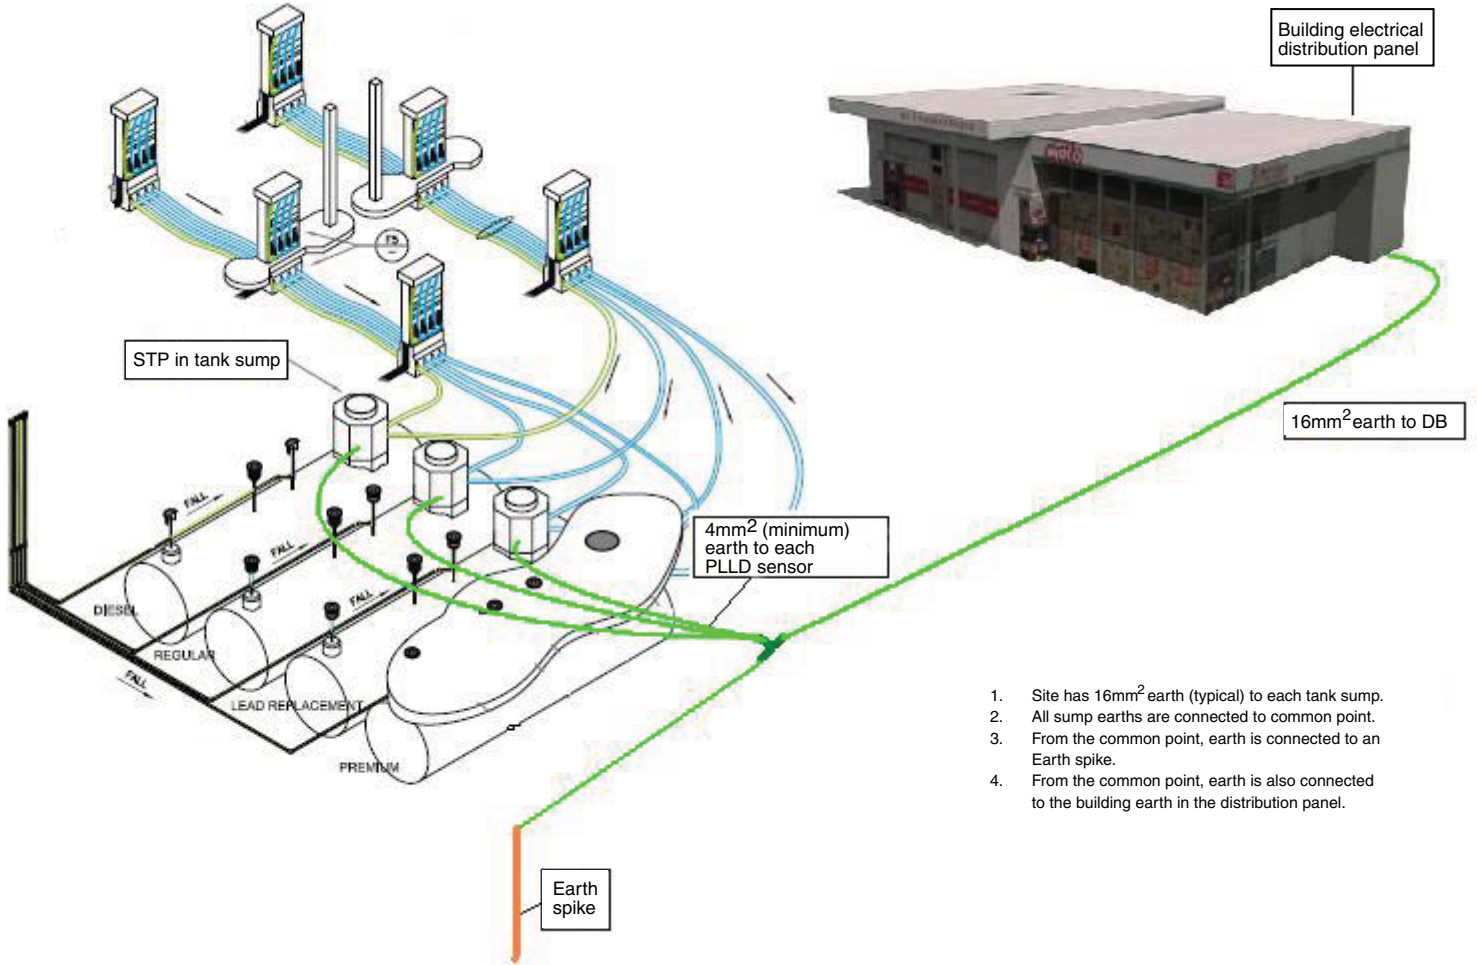

Figure 1.
2. A separate 4mm² (minimum) wire must be run from the site earth ground to the STP sump in a non-intrinsically safe conduit or duct (see Figure 1). **DO NOT CONNECT THE CLAMP OR BODY OF THE PLLD PRESSURE SENSOR TO ANY INTRINSICALLY SAFE WIRE THAT CONNECTS TO THE TLS CONSOLE.**